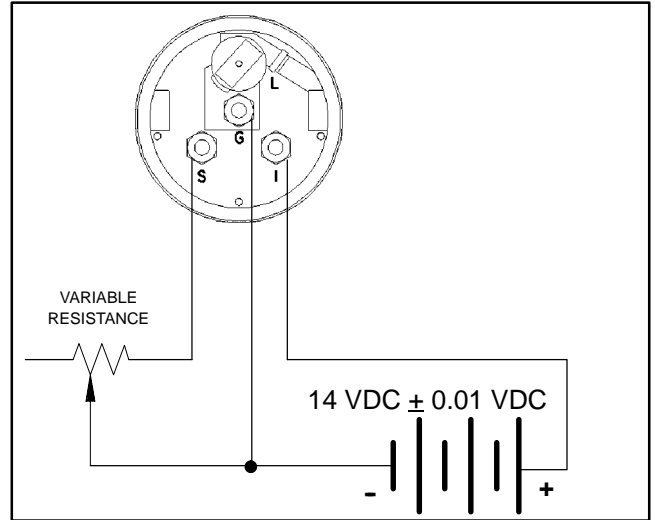

Figure 36
1. Connect fuel gauge to the variable resistance and DC voltage source (Fig. 36).